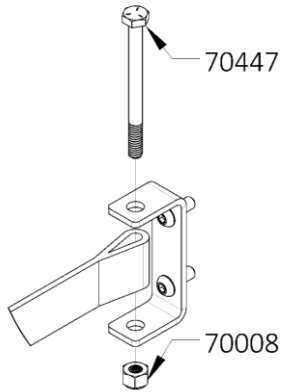

Figure 14: Door Stop Channel Hardware
22. Thread the door strap (401035) into the door stop channel (Step 19) as shown in Figure 14.